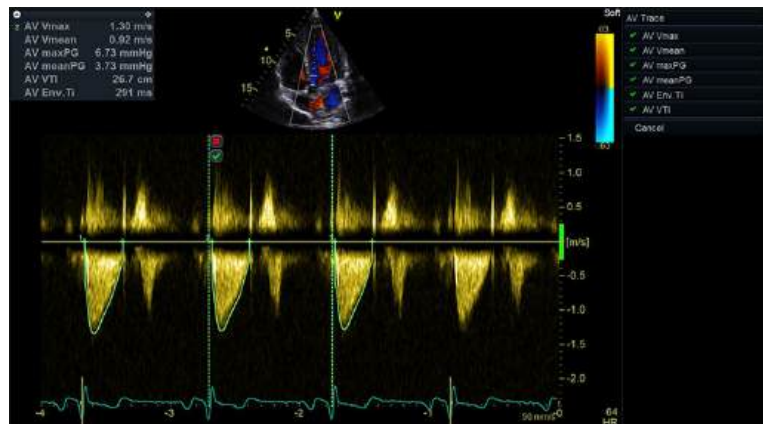

Figure 8-37. Reject or keep cycles
4. When hovering over a cycle, the cycle can be rejected or exclusively kept by selecting the corresponding symbol, see Figure 8-37. Press the **Recalc** button to restore rejected cycles.